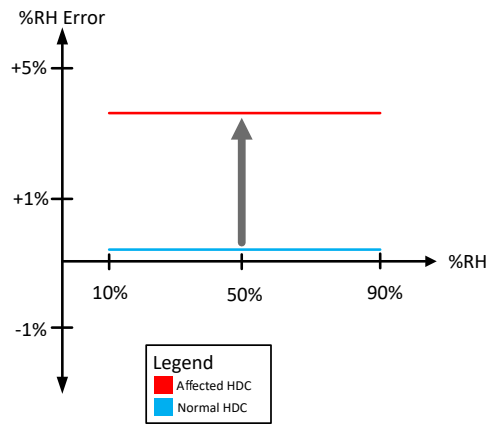

Figure 2-3. RH Offset Error Example
- **RH Offset:** refers to a positive or negative shift in RH error that is constant over different ambient RH levels and temperatures. Figure 2-3 demonstrates how %RH error can flatly increase across RH levels.